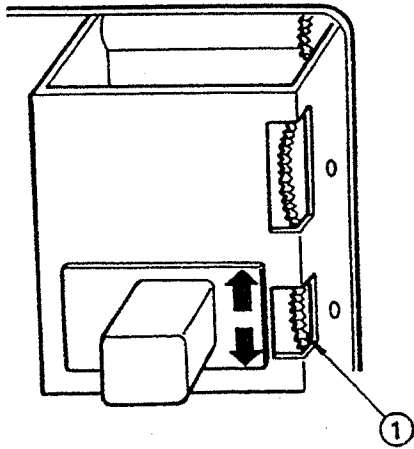
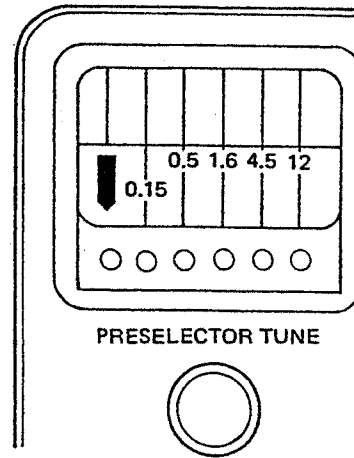

Figure 6
Figure 7
CALIBRATION	Hold PRESELECTOR TUNE knob with your hand, and set the gear ①, shown in Figure 6, so that the Preselector Dial is as shown in Figure 7.